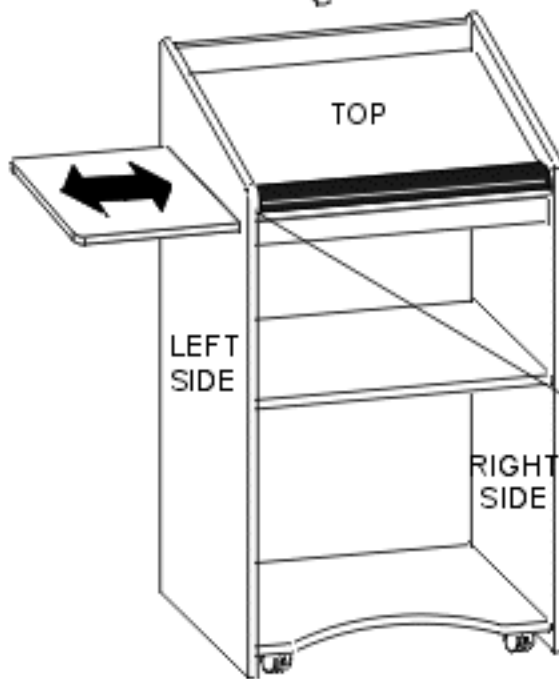

FIG. 5
Remove paper liner from adhesive strip on the back of WRIST REST / PAPER STOP (J). FIG. 5. Carefully align WRIST REST / PAPER STOP along front edge of TOP - centering it from side to side. Press PAPER STOP onto TOP to secure